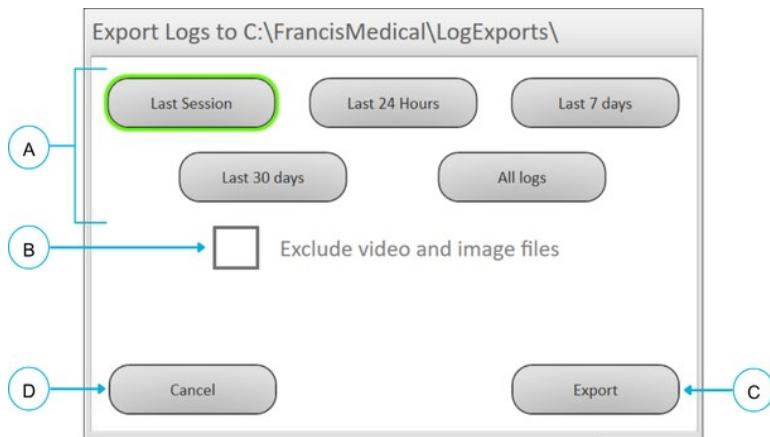

Figure 7-16: Export Logs window
The Export Logs option allows the user to save system log data to a USB drive. Logs can be filtered by time range, and video/image files may be excluded to reduce export time and file size (Figure 7-16).
- The Export Logs window is displayed (Figure 7-16)
4. Select the desired time range (A). The selected option will be highlighted in green:
5. (Optional) Select the Exclude video and image files checkbox (B) to exclude large media files.
6. Select **[Export]** (C) to save the selected logs to a USB drive.
7. Select **[Cancel]** (D) to exit without exporting.